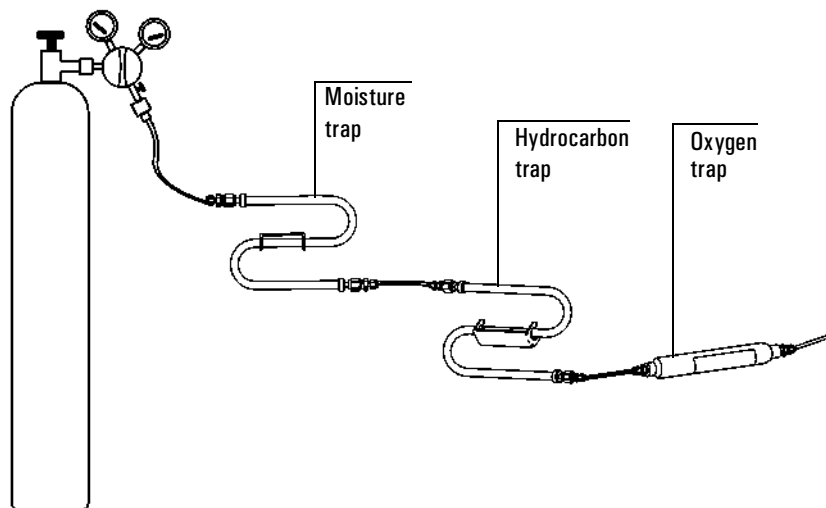

Figure 104. Plumbing diagram
1. Determine where you will install the trap in your supply tubing line. See Figure 104 for the recommended trap order.